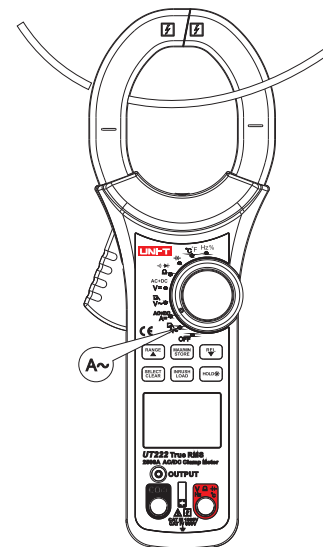

Figure 13
10. AC current measurement (See Figure 13)